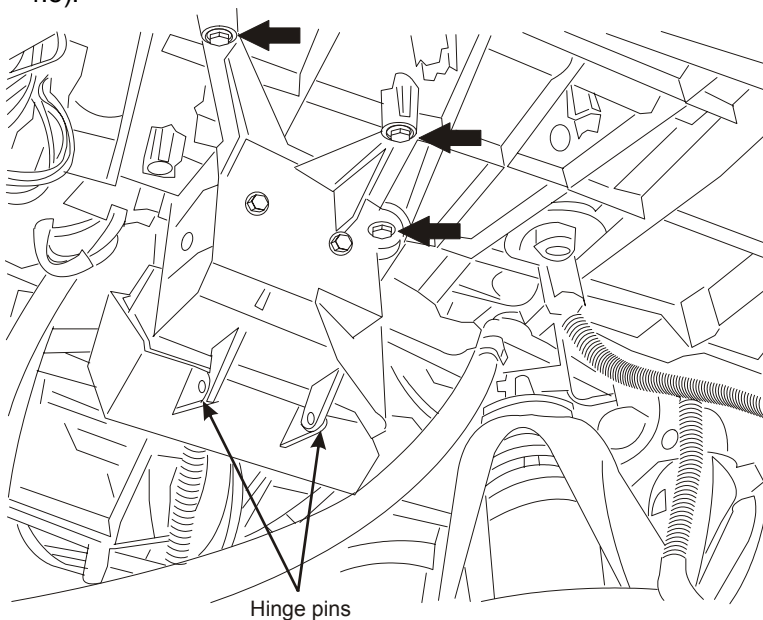

Figure 4.8
- ☐ Remove the three screws from the OEM throttle actuator housing assembly under the driver's side battery box (Figure 4.8).